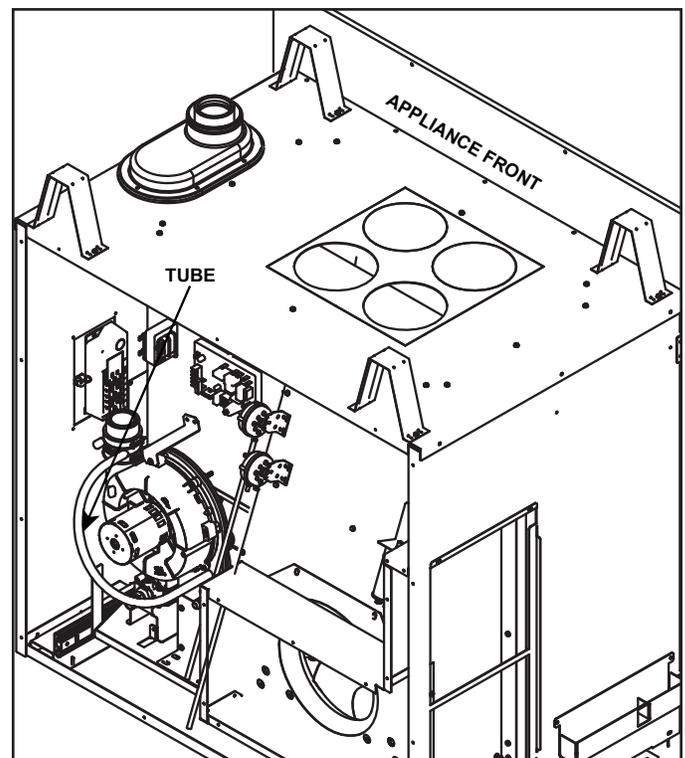

Figure 11.2 Upper Inducer Housing Tube - Connected to Inducer
4. Remove upper inducer tube from inducer housing. See Figure 11.2.